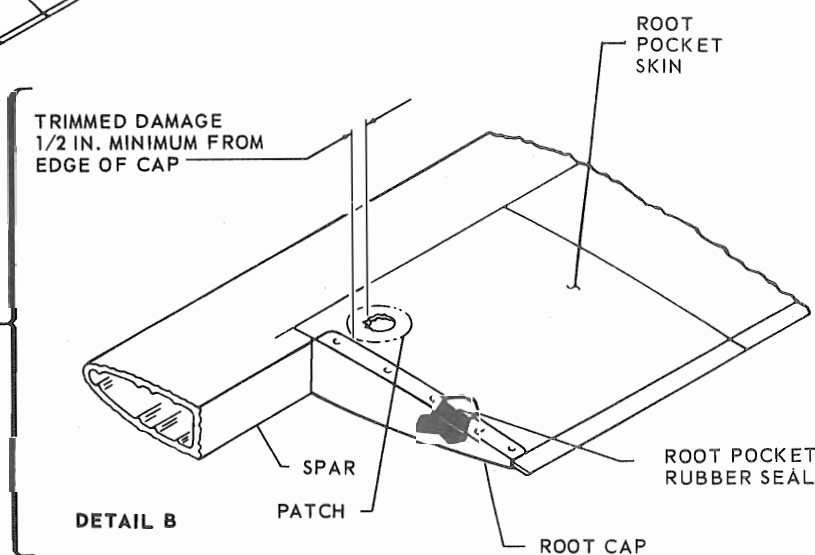

Figure 2-1. Main Rotor Blade Repair Limitations
2-2. DESCRIPTION. (See figure 2-1.) The main rotor group is comprised of the four main rotor blades. The main rotor blades are fabricated of aluminum alloy with the exception of the forged steel cuff. The main supporting member of the blades is a hollow, aluminum alloy extruded spar which forms the leading edge. A steel cuff is bolted to the root end of the spar and serves as the point of attachment of the blade to the main rotor hub assembly. Twenty-three individual pockets, each constructed of inboard and outboard aluminum ribs, aluminum foil honeycomb core, and aluminum skin covering, are bonded to the trailing edge of the spar. The tip end of the blade contains a readily removable tip cap fastened to the spar and tip pocket rib by means of screws and nut plates. The root pocket of the blade is sealed at its inboard end by an aluminum alloy root cap cemented and riveted to the pocket. The tip cap, root cap, and the root pocket rubber seal are the only components of the main rotor blades that may be replaced.
h. Any damage to the steel cuff (figure 2-1), greater than the limitations given in paragraph 2-10, necessitates replacement of the blade.
i. Separation of the bonded joints greater than the repairable limitations in detail A, figure 2-1, necessitates replacement of the blade.
b. Dents in the pockets, tip cap, or root cap (figure 2-1) which do not puncture the skin. The dents may be quite pronounced without causing skin fracture and are not considered serious unless they cause unusual distortion at the trailing edge or tip.
d. Voids that do not exceed the limitation given in detail C, figure 2-1.
c. A temporary repair is permitted for the separation of the bonded joint between the pocket and the spar. The separation must not exceed 1/2 inch from either edge of the first eight pockets from the tip of blade and 1 inch from either edge of the remaining 15 pockets. (See detail A, figure 2-1.) The tem-